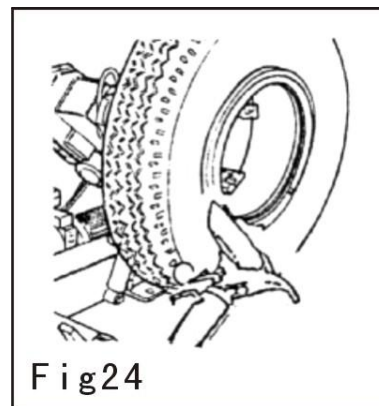

Fig 24
5) Place the open ring on the rim and mount the open ring with the circular disk as shown in Fig 24.